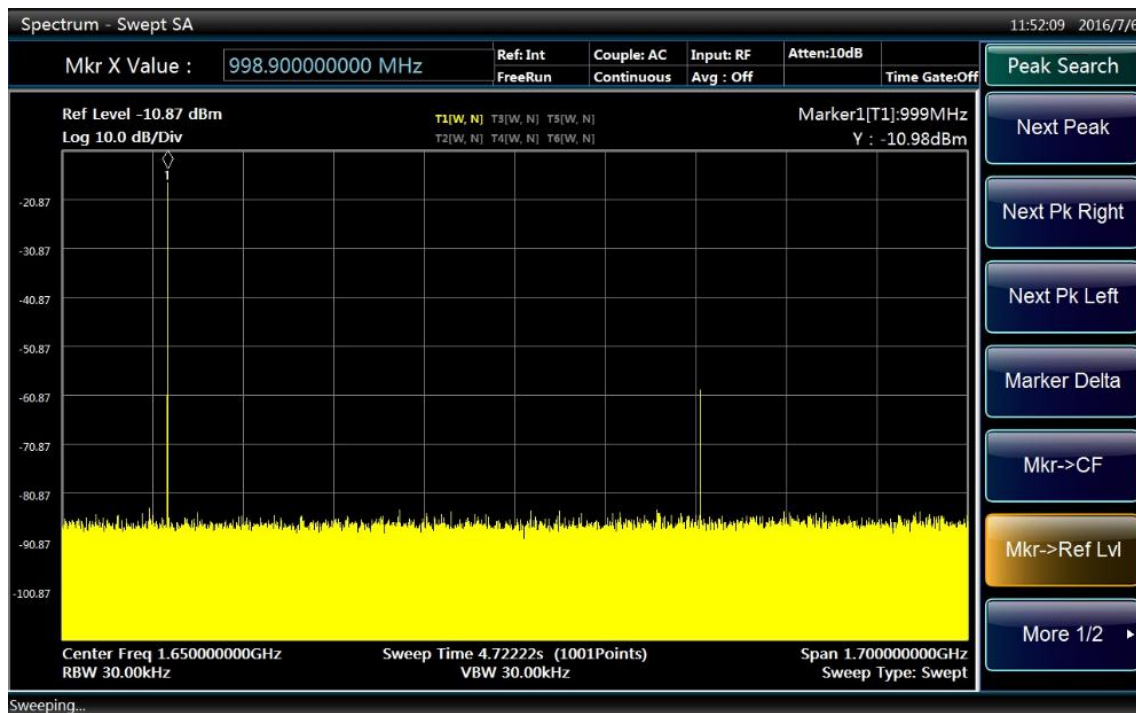

Fig. 4.18 Display interface of signal peak at reference level
- Press [Peak Search] and [Marker → Reference Level] to obtain an interface as shown in Fig. 4.18.